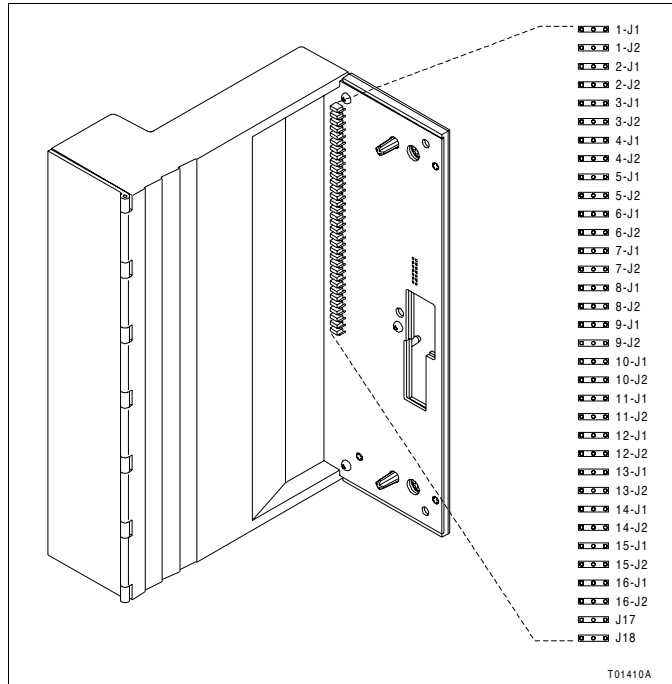

Figure PR6-1. User-Configurable Jumpers - Base
4. Set the analog input field power select jumpers J17 and J18 located on the AIN-120 base (Table PR6-2). These jumpers affect channels configured as IFP or LFP powered 4 to 20 milli-ampere inputs. Refer to Figure PR6-1 for jumper locations.
5. Set the input channel jumpers located on the AIN-120 base (Table PR6-3). Refer to Figure PR6-1 for jumper locations.